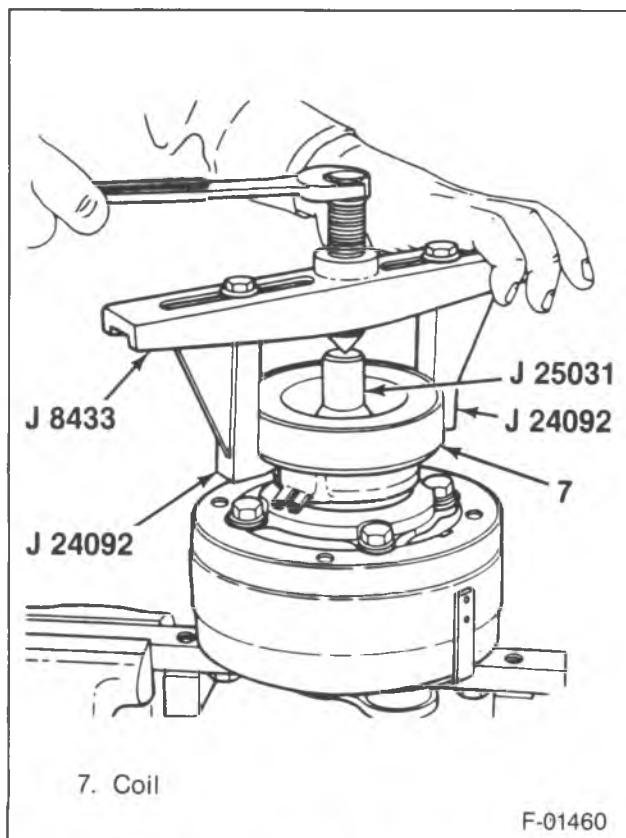

Figure 16—Removing the Poly-Groove Clutch Coil
1. Clutch drive hub (3).
2. Rotor (5) and bearing (6) assembly.
3. Clutch coil (7) from the front head (15) (figure 16).
- Install J 25031 guide to the shaft (34).